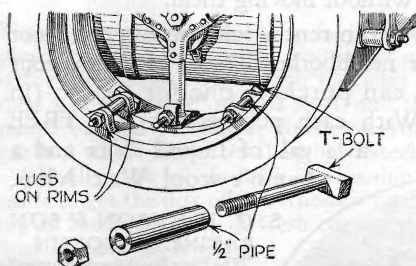

Fig. 2. T-bolts, nuts and short sections of pipe make it easy to take along an extra spare tire
**W**HEN the spare tire rack is built to hold only one extra tire and rim, the usual way to carry two spares on long trips is to strap the extra spare to the one that is bolted to the tire carrier. If, however, your car is fitted with rims made with lugs attached, Fig. 2 shows how to carry a spare neatly without straps. T-head bolts are used and sections of half-inch pipe are cut the right length to be spacers between the two tires. They should be long enough so that the rubber does not touch. Use at least three bolts on small tires and four or five on the larger sizes.
**R**OWLAND L. Hill, of Saginaw, Mich., wins the \$10 prize this month for his suggestion of a practical way to carry two spares (Fig. 2). Each month POPULAR SCIENCE MONTHLY awards \$10 in addition to regular space rates to the reader sending in the best idea for motorists. Other contributions that are published will be paid for at usual space rates.